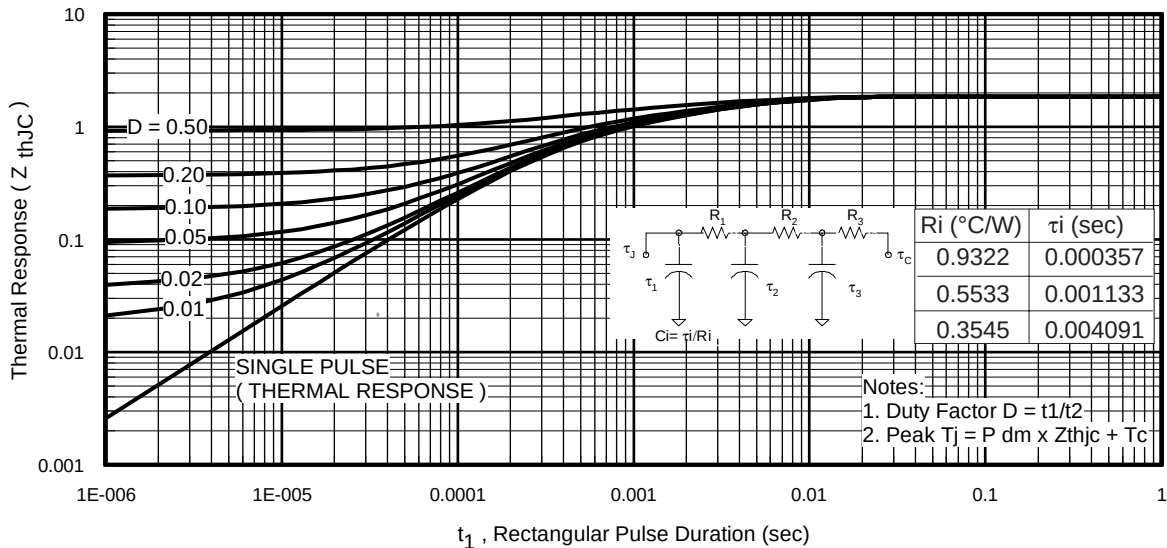
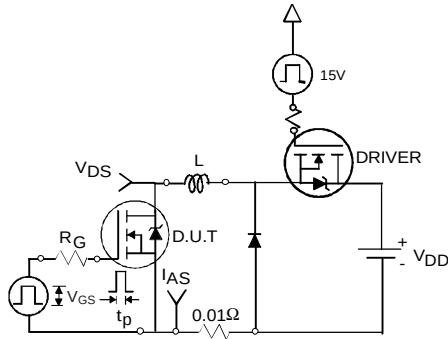

Fig 11. Maximum Effective Transient Thermal Impedance, Junction-to-Case
Fig 12a. Unclamped Inductive Test Circuit
- ① Repetitive rating; pulse width limited by max. junction temperature. (See fig. 11).
- ② Limited by T_{Jmax} ; starting $T_J = 25^\circ\text{C}$, $L = 0.13mH$, $R_G = 25\Omega$, $I_{AS} = 31A$, $V_{GS} = 10V$. Part not recommended for use above this value.
- ③ $I_{SD} \leq 31A$, $di/dt \leq 1070A/\mu s$, $V_{DD} \leq V_{(BR)DSS}$, $T_J \leq 175^\circ\text{C}$.
- ④ Pulse width $\leq 1.0ms$; duty cycle $\leq 2\%$.
- ⑤ $C_{oss \text{ eff.}}$ is a fixed capacitance that gives the same charging time as C_{oss} while V_{DS} is rising from 0 to 80% V_{DSS} .
- ⑥ Limited by T_{Jmax} , see Fig.12a, 12b, 15, 16 for typical repetitive avalanche performance.
- ⑦ This value determined from sample failure population. 100% tested to this value in production.
- ⑧ This is applied to D²Pak, when mounted on 1" square PCB (FR-4 or G-10 Material). For recommended footprint and soldering techniques refer to application note #AN-994.
3. Equation below based on circuit and waveforms shown in Figures 12a, 12b.
$Z_{thJC}(D, t_{av})$ = Transient thermal resistance, see figure 11)